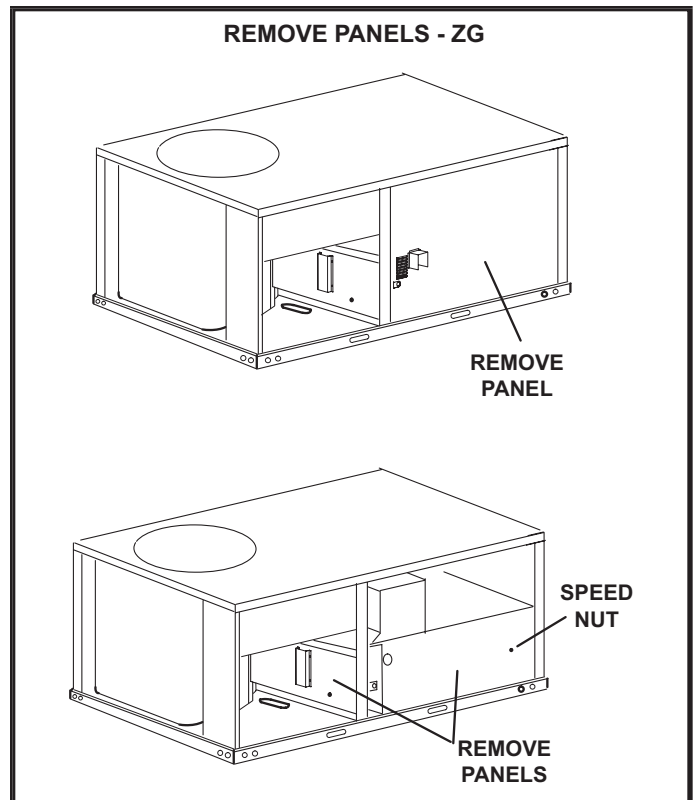

FIGURE 9
- 2 - Open access panels as shown in FIGURE 9.